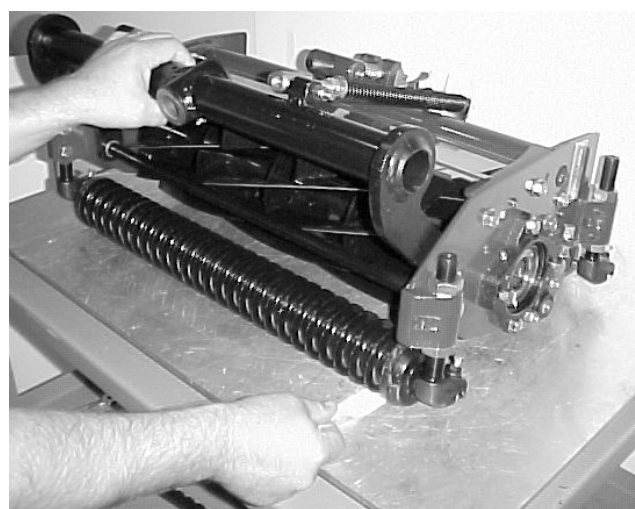

Figure 18
4. Use a piece of newspaper or visually check to see if any gap exists between front roller ends and flat surface (Fig. 18). **If needed, adjust front height-of-cut rods until both ends of roller are in contact with level surface.**